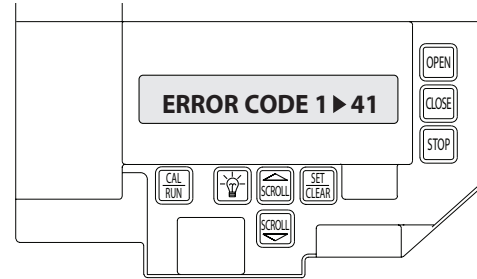

Figure 1
- 2) Press SCROLL  (up or down) until display reads "CYCLES>1,2,3 etc. where the number is the number of open/close cycles the operator has performed. **Figure 1**.
The error code memory stores the last 10 error codes in sequence. Once 10 codes are stored, the oldest code is erased to make room for the newest code. These codes are displayed in calibration mode. The display will flash the number of the error code and the 2-digit error code followed by a description of the error code. **Fig. 1 & 2.**